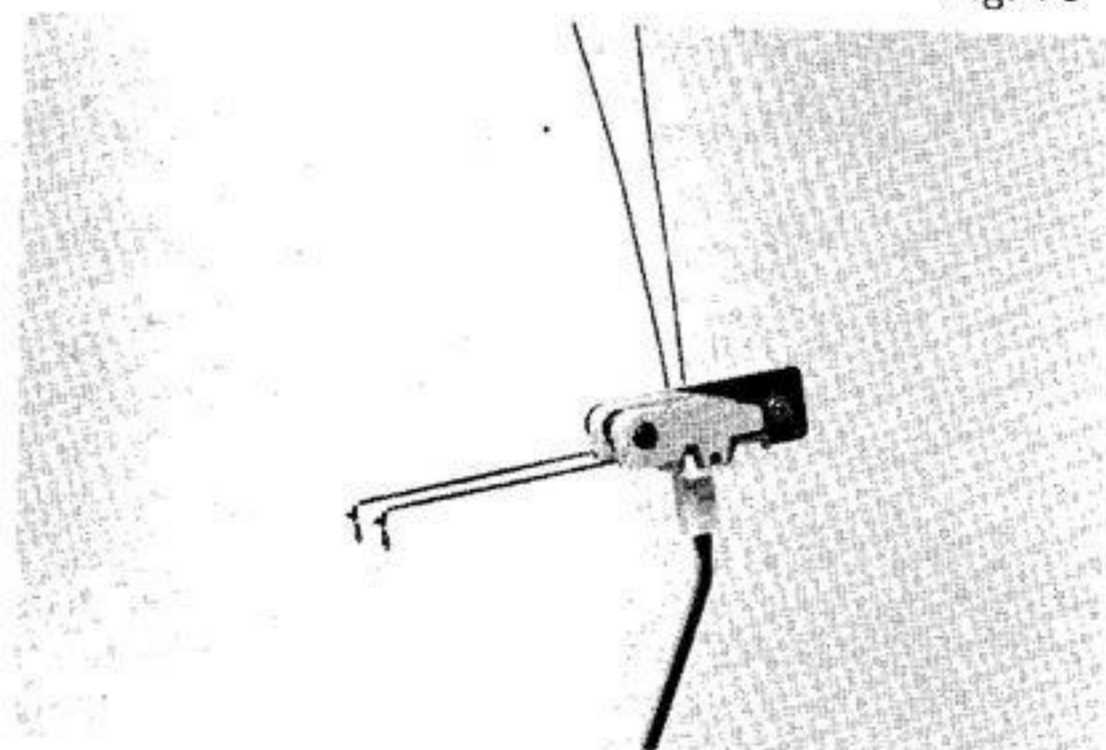

Fig. 17
12. Fit Overhead Feeder Unit to the top of the rod. (Fig. 17)